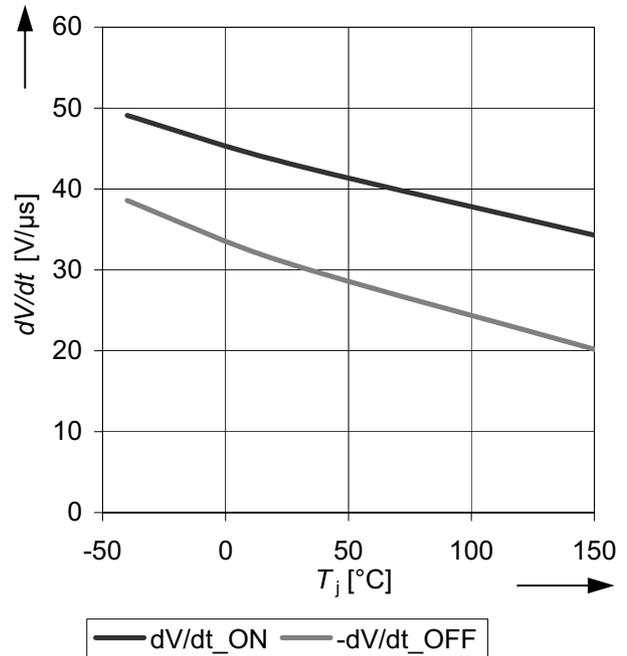

**Figure 28** Typ. output leakage current  $I_{L(OFF)}$  as a function of the junction temperature  $T_j$
3) See Figure 28 for typical temperature dependency.